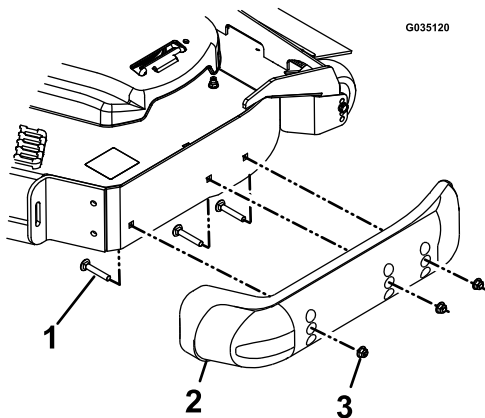

Figure 38
4. Remove the bolts and nuts from each bumper (Figure 38).